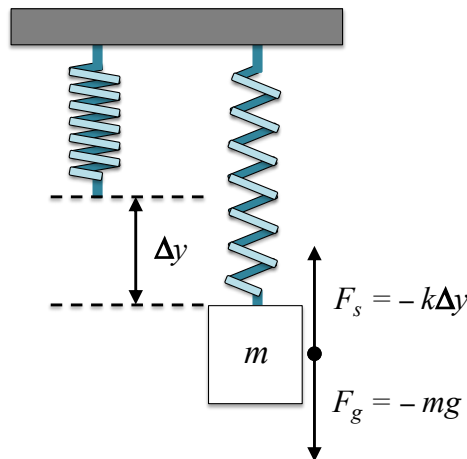

Figure 1 – Hanging a mass m from a spring stretches the spring by an amount Δy to a new equilibrium position.
Structures used in aerospace and mechanical engineering tend to vibrate and oscillate. The spring-mass oscillator is the simplest mathematical model for understanding this phenomenon. Shown in Fig. 1, a spring is stretched an amount Δy by hanging a weight of mass m . The weight comes to rest at a new equilibrium position where the spring force $F_s = -k\Delta y$ is balanced by the force of gravity $F_g = -mg$, where k is the spring constant in Hooke's Law.
1. Sketch Fig. 1 in your lab notebook.
10. Make your sketch of Figure 1 in your lab notebook includes the X and Y axes of the accelerometer.